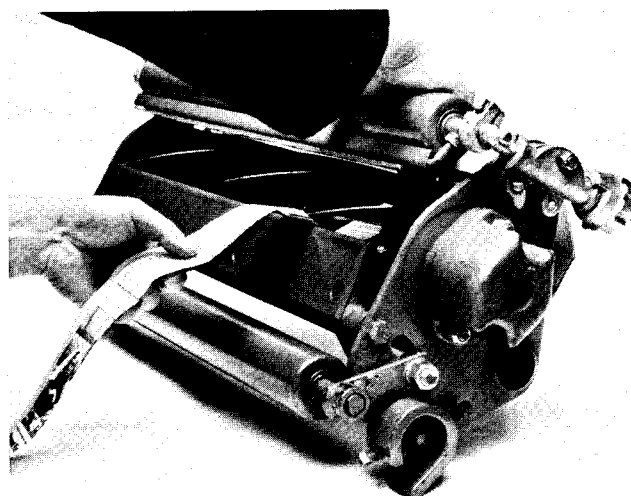

Figure 10
3. After adjustment, check to see if reel can pinch paper when inserted from the front, and cut paper when inserted at a right angle (Fig. 10). It should be possible to cut paper with minimum contact between the bedknife and reel blades.
3. Put the bar across the front and rear rollers and adjust the height of cut knob until the underside of the screw head engages the bedknife cutting edge (Fig. 10).